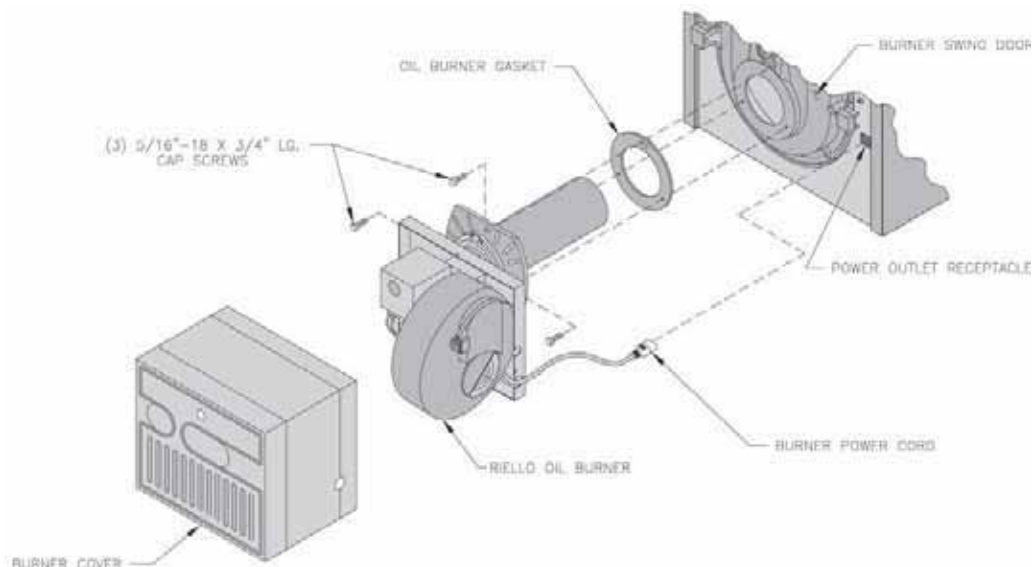

Figure 12A: Riello Oil Burner Installation
- Install Riello Oil Burner. (See Figure 12A)